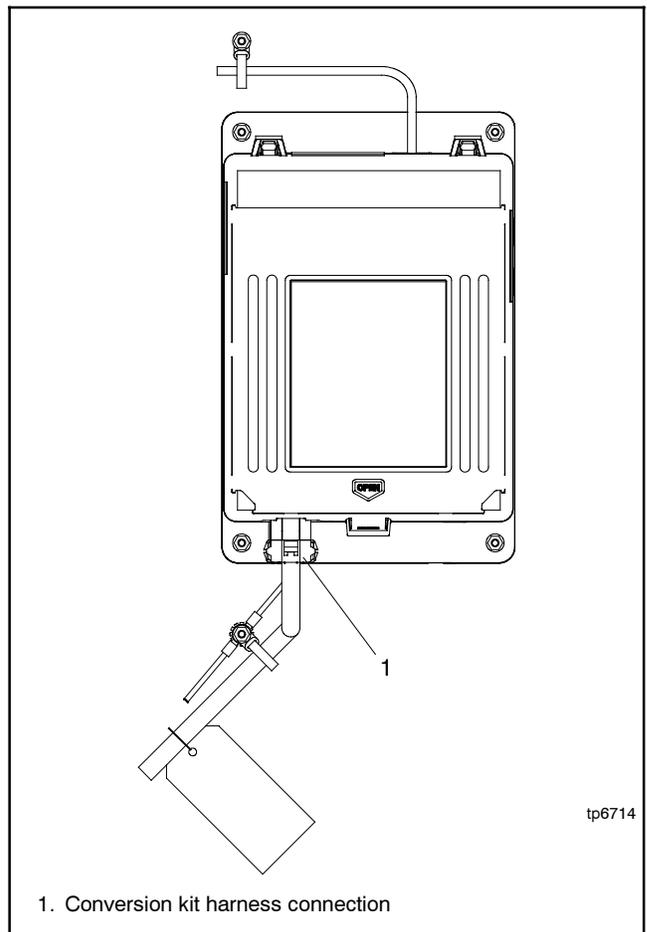

Figure 21 Connection to MPAC™ 1500 Controller
20. Connect P1 of the conversion kit harness to P1 of the MPAC™ 1500 controller. See Figure 21.